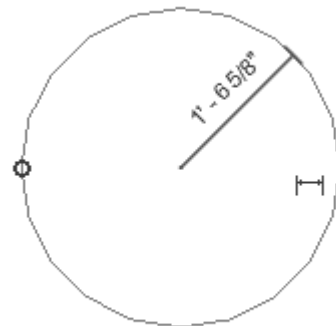

Figure 3-1.18
48. **Select the circle** and notice a temporary dimension appears, indicating the circle's radius (Figure 3-1.18). Press **Esc** to unselect it.